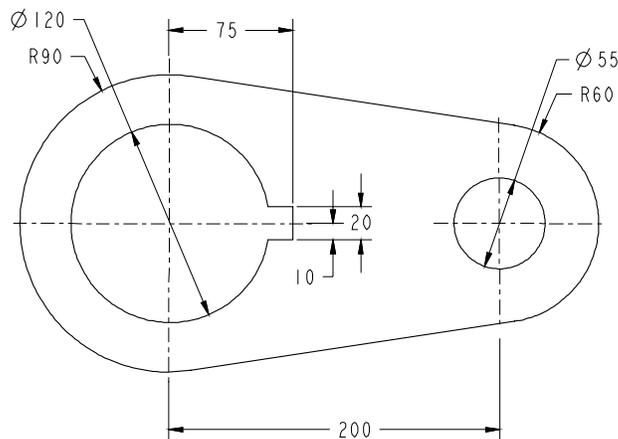

Figure 2-22 Sketch for Tutorial 1
In this Tutorial you will place an existing sketch that you had drawn in Tutorial 3 of Chapter 1. After placing the sketch, draw the keyway as shown in Figure 2-22. Do not use the **Intent Manager** in this tutorial. **(Expected time: 15 min)**
The dimensions that will be applied to the keyway are shown in Figure 2-22.
2. Modify the dimensions of the keyway. For dimension values refer to Figure 2-22.